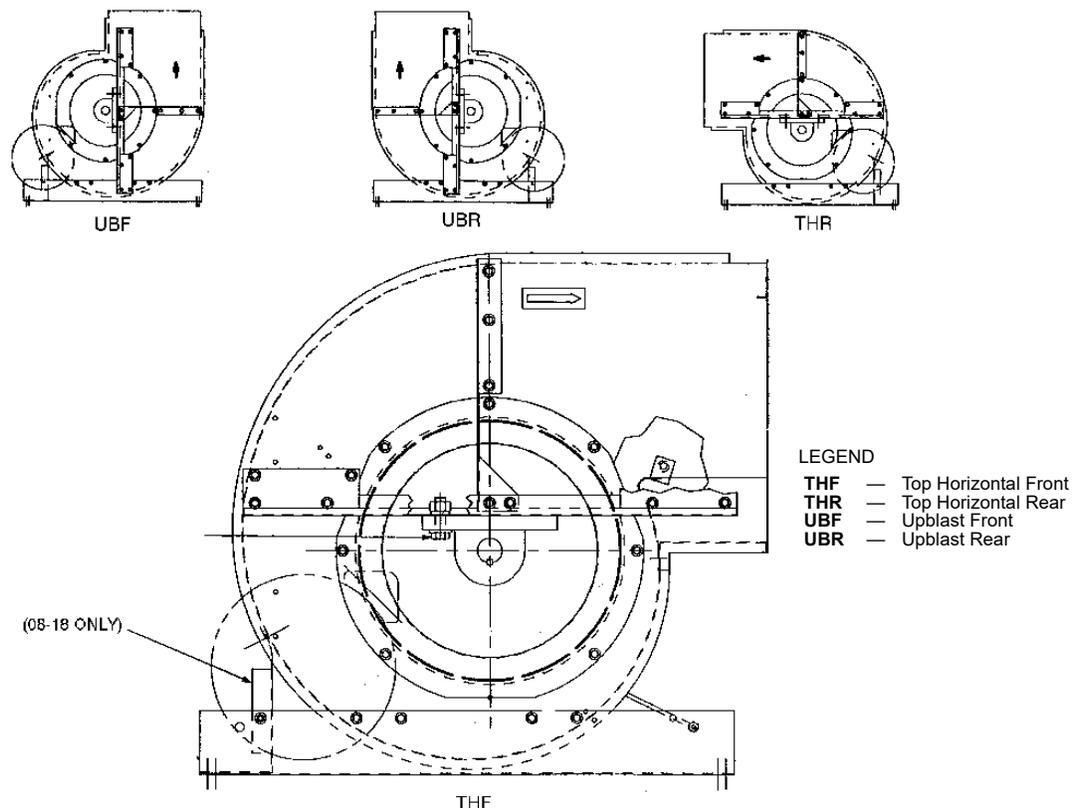

Fig. 76 — Fan Discharge Positions, Sizes 03-18
- Sizes 03-18 — See Fig. 76. It is not necessary to remove the bearing support channels from the fan housing.